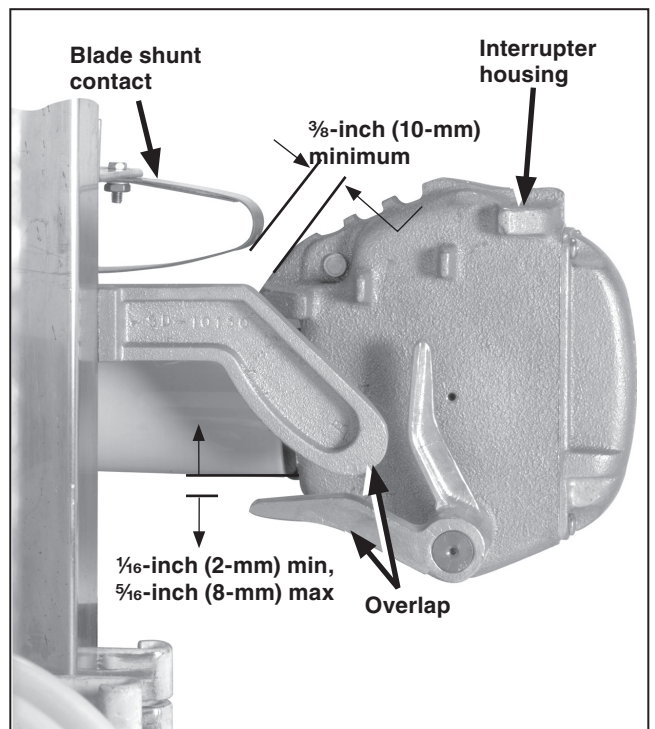

Figure 33. The blade assembly in the fully Closed position.
- (b) With the blade assembly in the fully **Closed** position, verify the minimum clearance between each blade shunt contact and its respective interrupter housing. See Figure 33. The shunt contacts may be bent as required to provide this clearance.